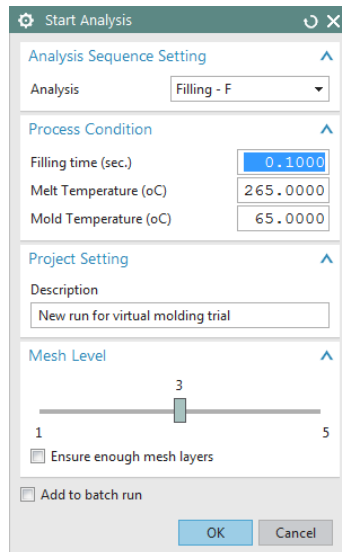

Figure 16-79 The *Start Analysis* dialog box
1. Choose the **Start Analysis** tool from the **Setting** group to start the analysis of the model; the **Start Analysis** dialog box is displayed, refer to Figure 16-79.